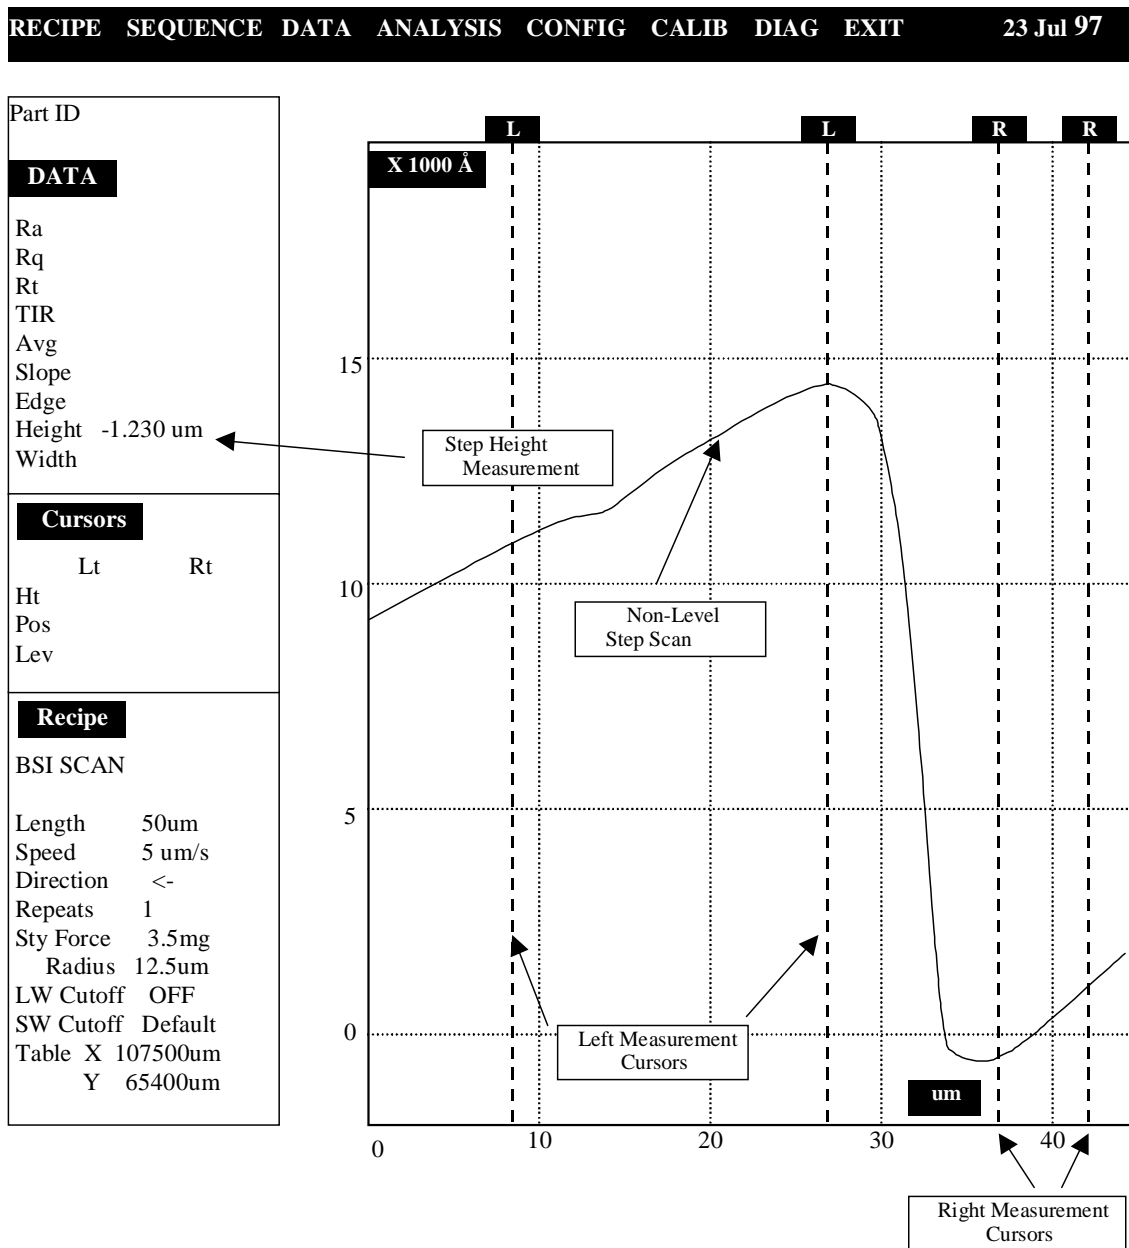

Figure 1. Non-level Tencor Scan
- 6.7.1 If the scan comes up and appears like the one shown below in **Figure 1**, the scan is not level. The step height is not really 1.230 μm as shown below. This is an artifact that is a result of the left and right measurement cursors using the average value between them.